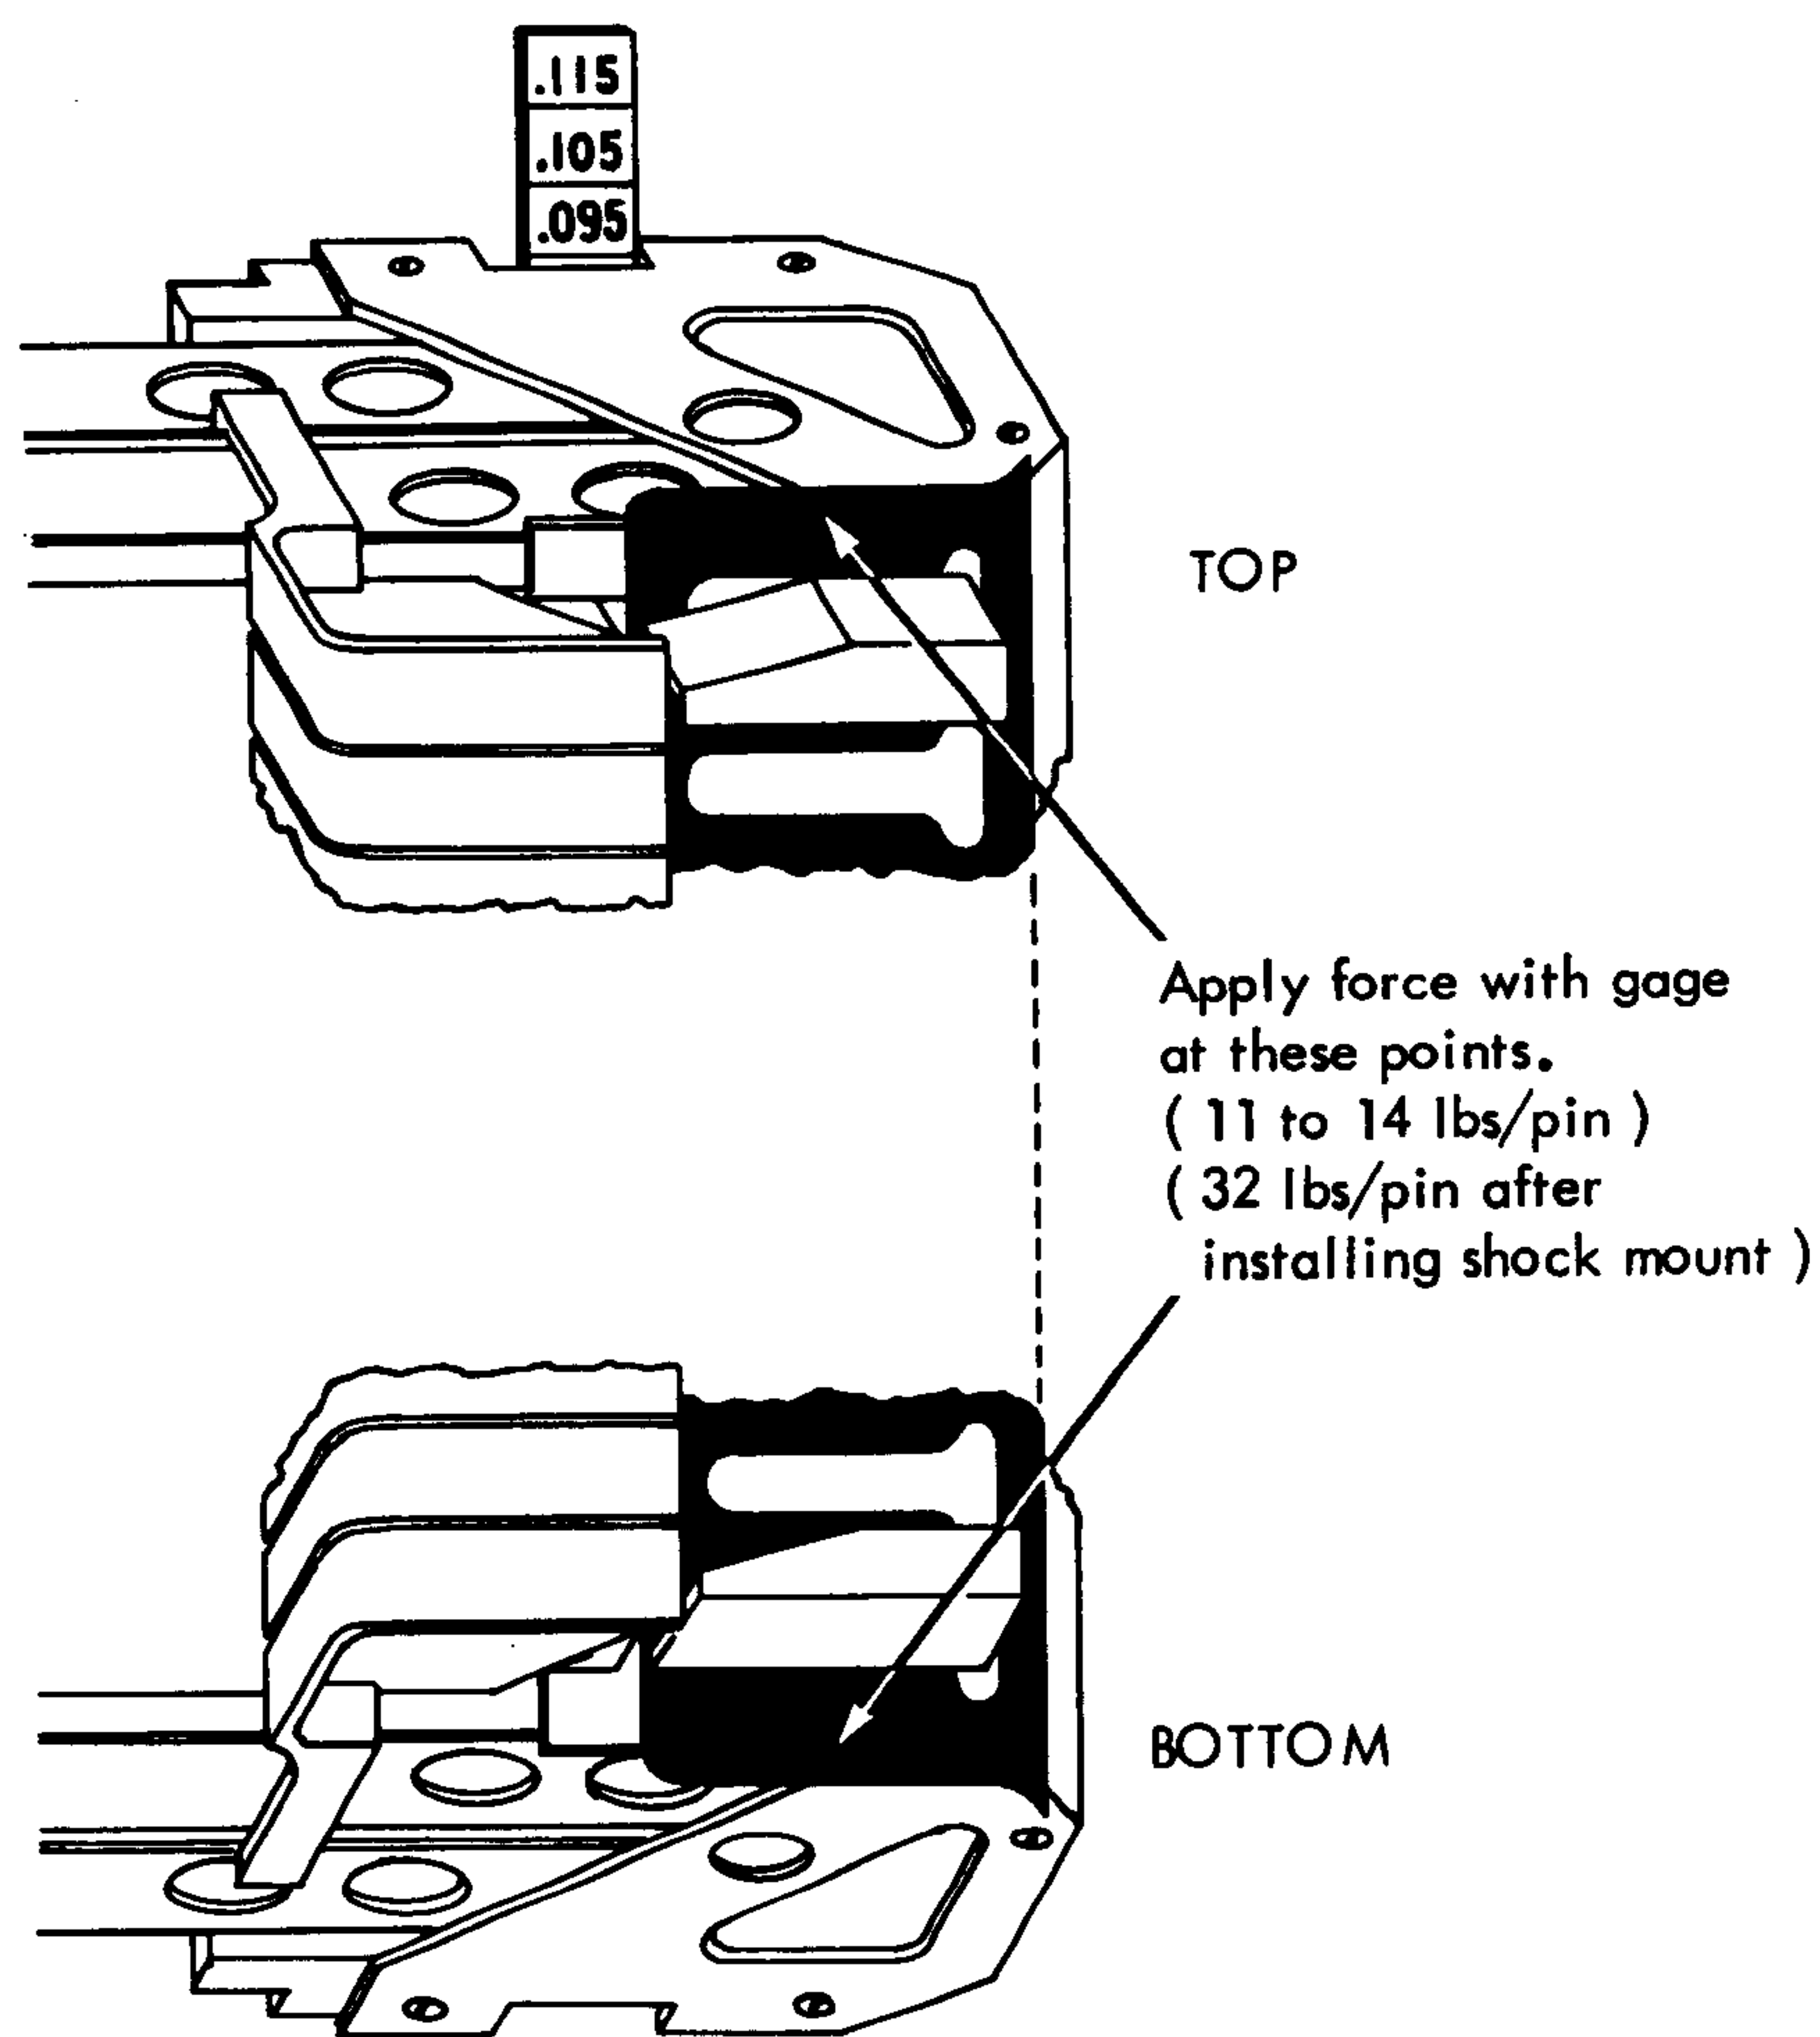
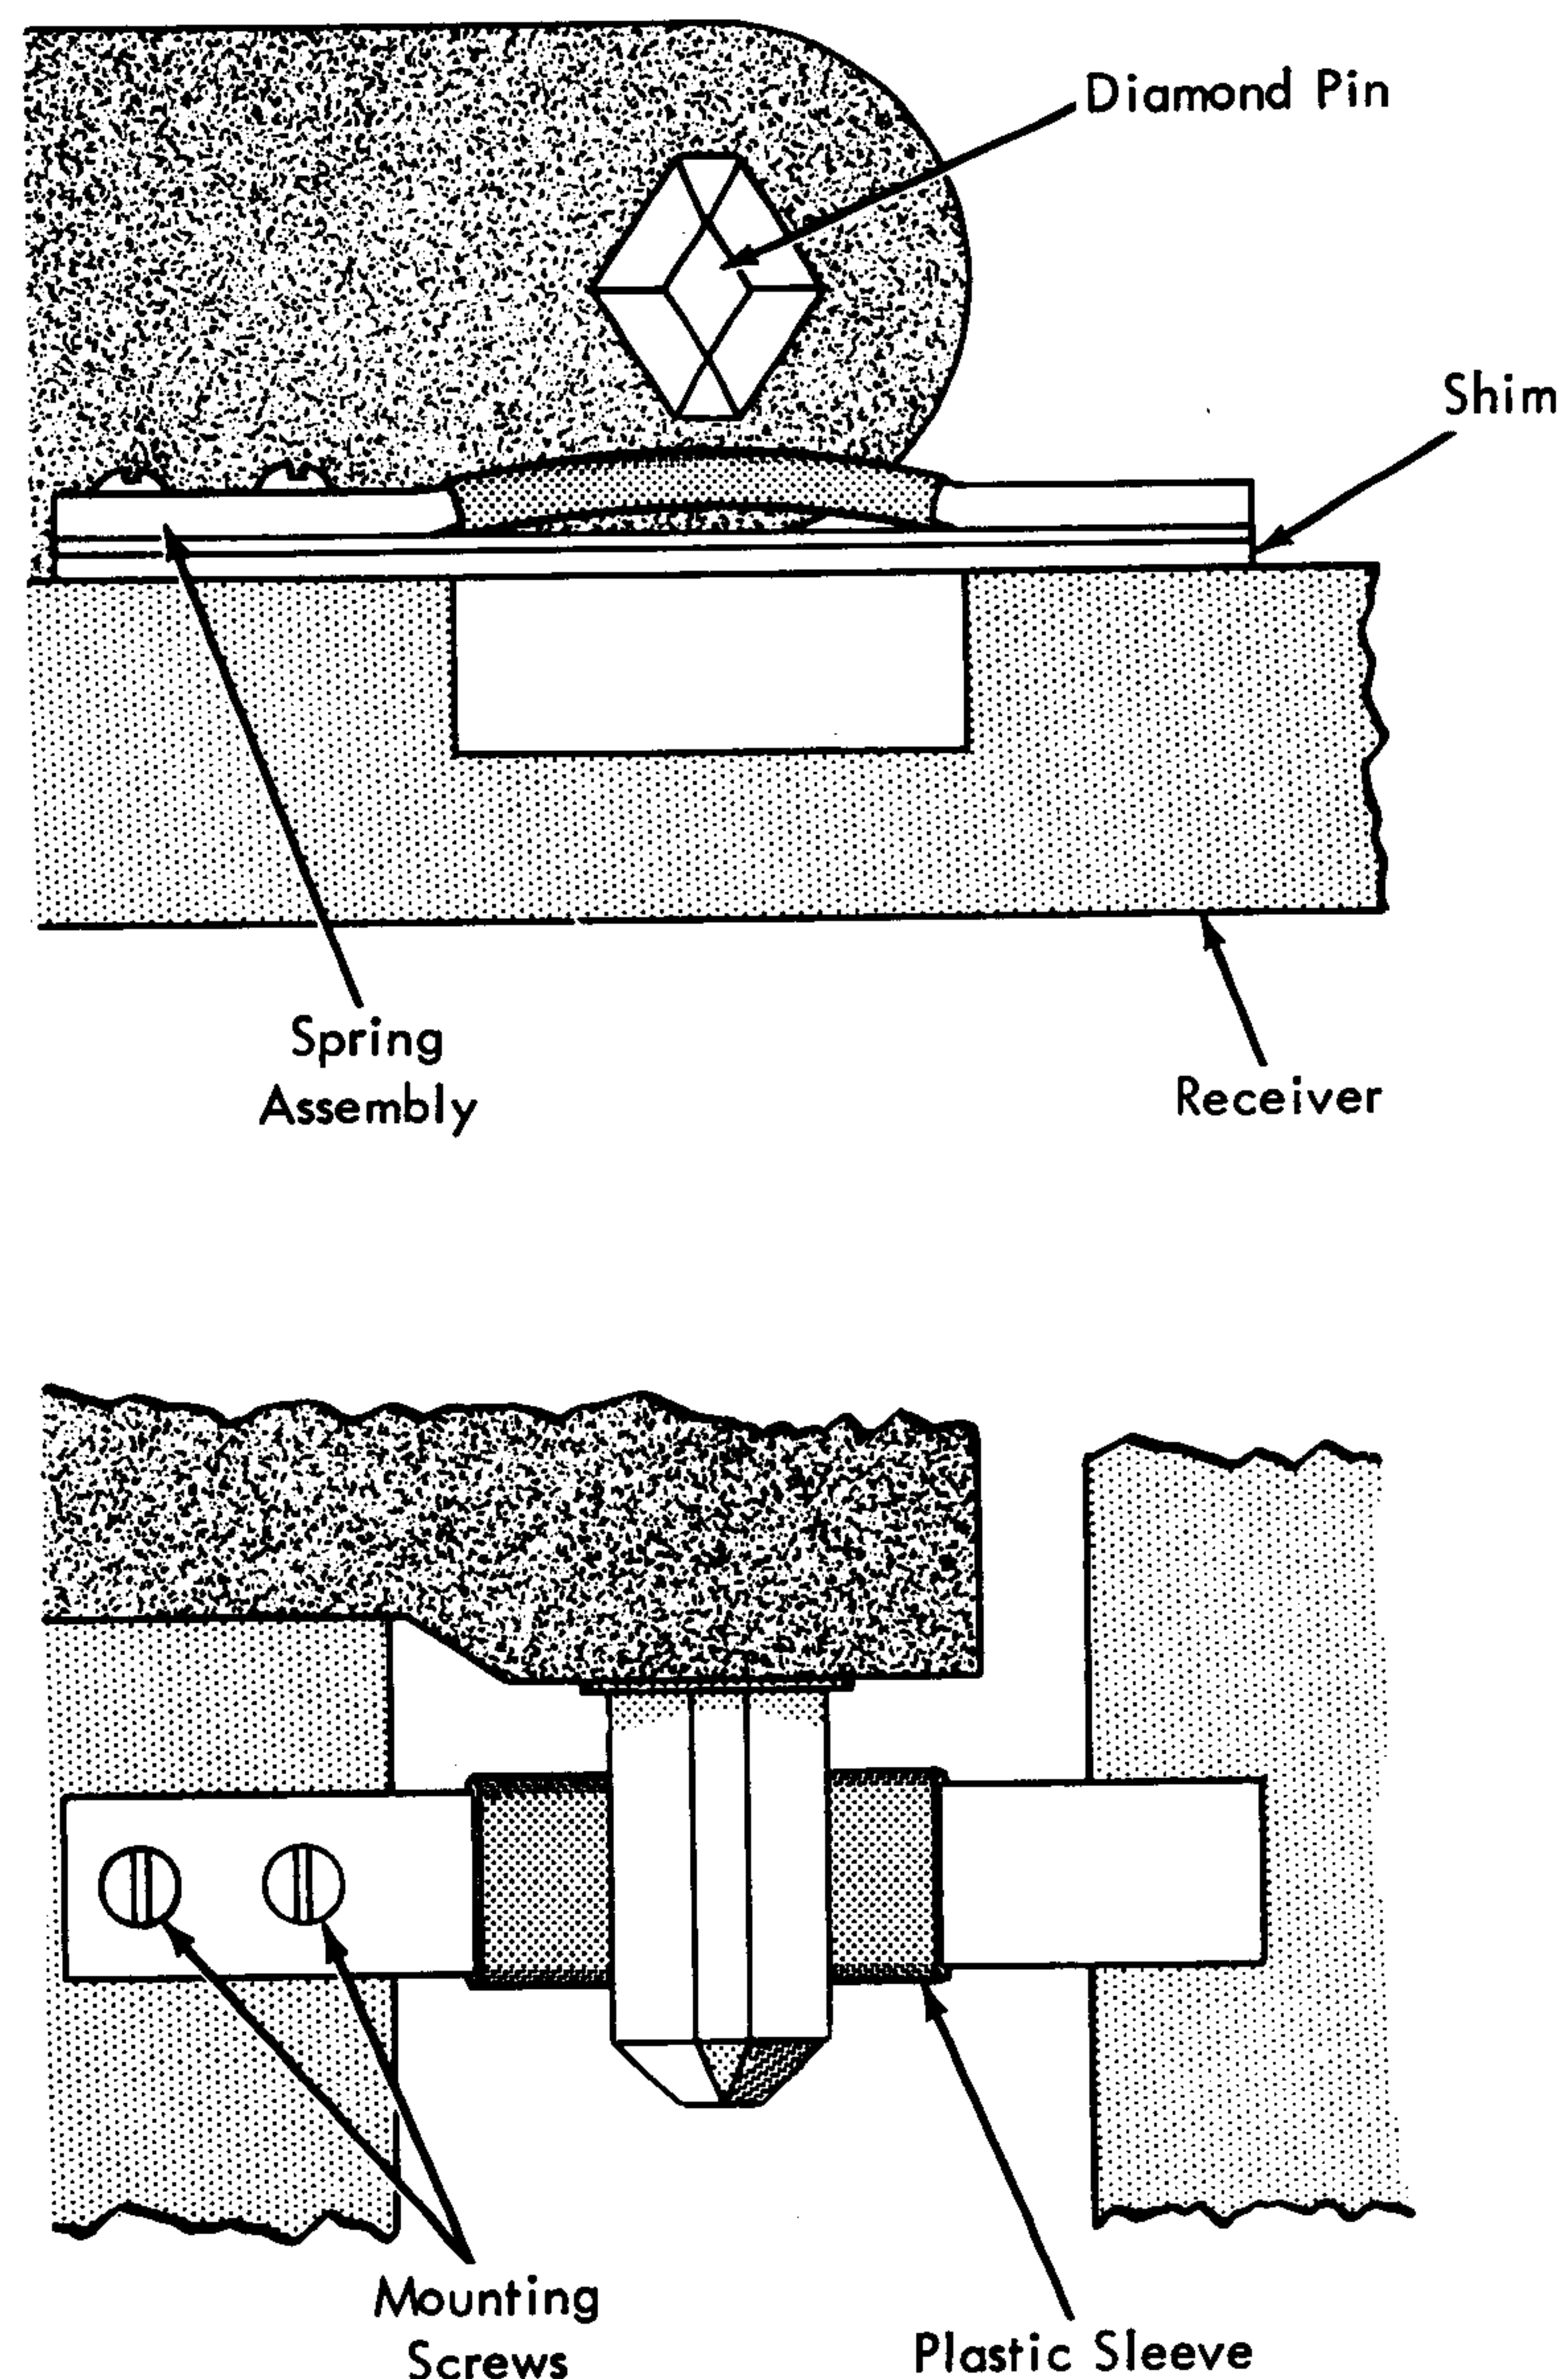

Figure 2-35. Force Measurement
Figure 2-36. Diamond Pin Springs
10. After the receiver is installed to the new actuator, check the force required to snap the diamond pins in their carriage position (Figure 2-35). If the required force is not within the 11 to 14 lb range, add or subtract shims as shown in Figure 2-36.
- a. With receiver locked to carriage, measure the distance between receiver and carriage with gage P/N 2108576 as shown in Figure 2-35.
- b. Note the number which appears on the gage just above the receiver (.095" as shown in Figure 2-35). This should indicate the shock mount to be used.
e. Swing receiver in, and with a force gage, measure the force required to freely seat each diamond pin (Figure 2-35). If this force exceeds 32 lb for either diamond pin, use the next lower thickness shock mount.